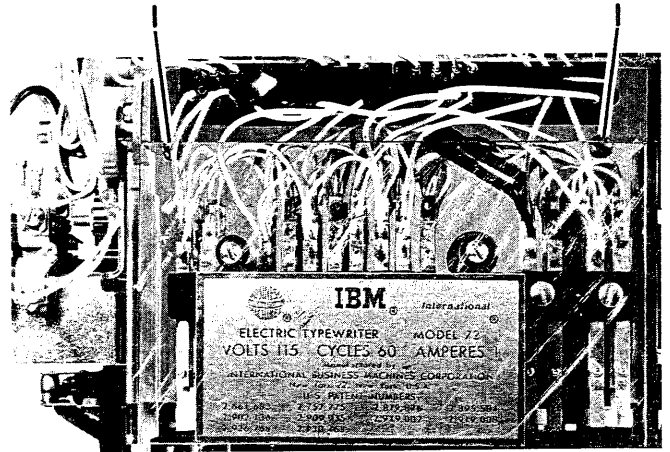

FIGURE 2. Cycle Clutch and Cycle Shaft Removal
- * 7. Remove the two screws (#1, Figure 2) that hold the contact plate to the frame. Remove the contact assembly and hold it to the front with a rubber band.